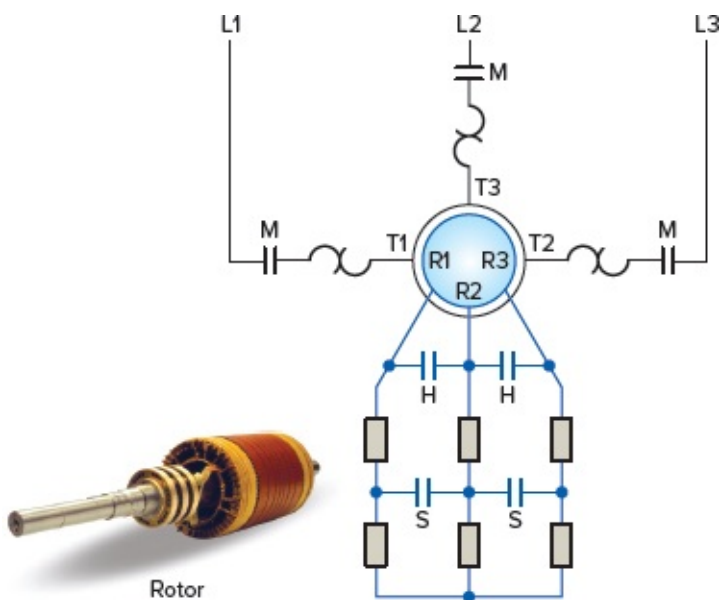

Figure 8-54 Wound-rotor magnetic motor controller.
Figure 8-54 shows the power circuit for a wound-rotor magnetic motor controller. It consists of a magnetic starter (M), which connects the primary circuit to the line, and two secondary accelerating contactors (S and H), which control the speed. The operation of the circuit can be summarized as follows: